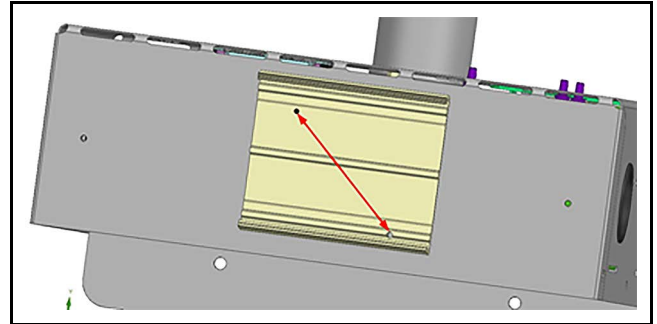

Fig. 7 Location of Drilled Holes on the Mounting Base (LM Control Box Top View)
- d. Drill 1/8" holes in the mounting base. Refer to Fig. 7.